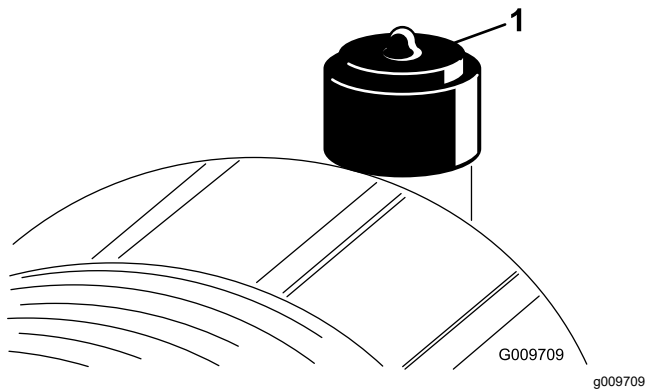

Figure 46
Service the air-cleaner filter only when the service indicator (Figure 46) requires it. Changing the air filter before it is necessary increases the chance of dirt entering the engine when you remove the filter.
2. Reset the indicator (Figure 46) if it shows red.